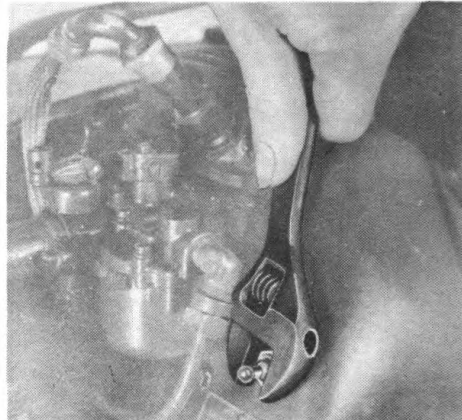

Fig 41. Removing small hex nut holding ignition switch to flywheel housing.
c. Remove small hex nut and lock washer holding ignition switch to flywheel housing as shown in figures 41 and 42.